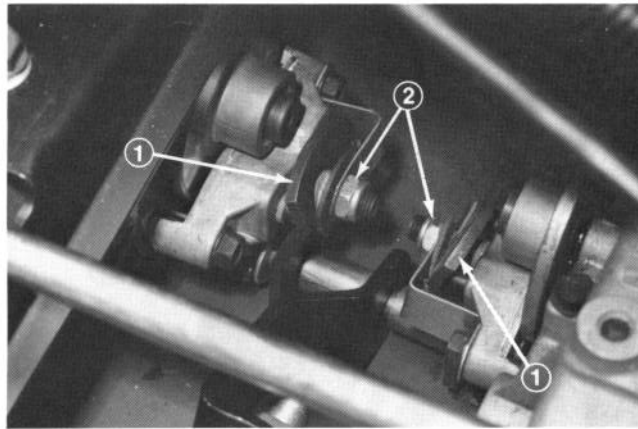

Figure 26
2. Tighten locknut on each transmission brake lever (Fig. 26) until lever cannot be wiggled from side to side. DO NOT OVERTIGHTEN.